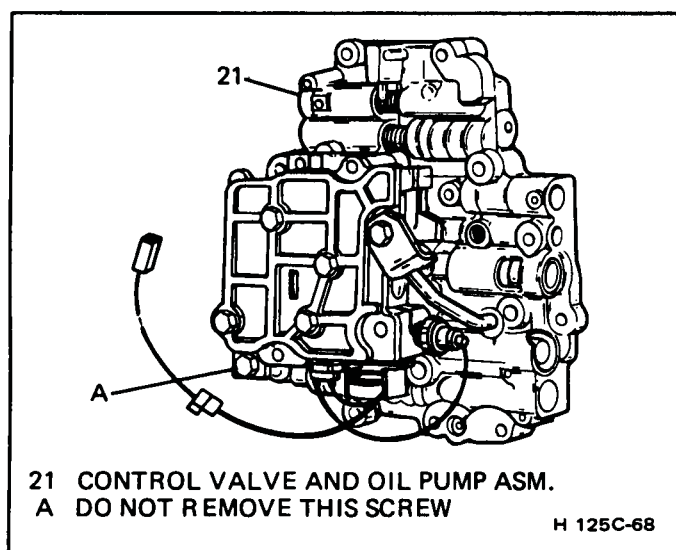
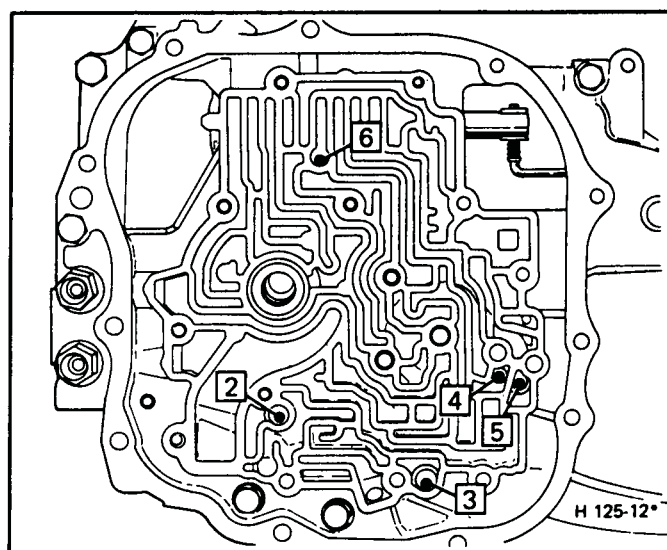

Figure 14 Control Valve/Pump Assembly
Figure 15 Check Ball Locations
1. Screws (27) (Leave two screws finger tight - tap the cover (26) with rubber mallet.)
2. Cover (26)
3. Bolts (24) - Do not remove the screw marked "A" (Figure 14)
4. Bracket assembly (23) and T.V. cable link (22)
5. Valve body (21) - Do not place the machined side on the bench
6. Number one check ball (16)
7. Pump shaft (18)
8. Spacer plate (20) and gaskets (19)
9. Five check balls (Figure 15)